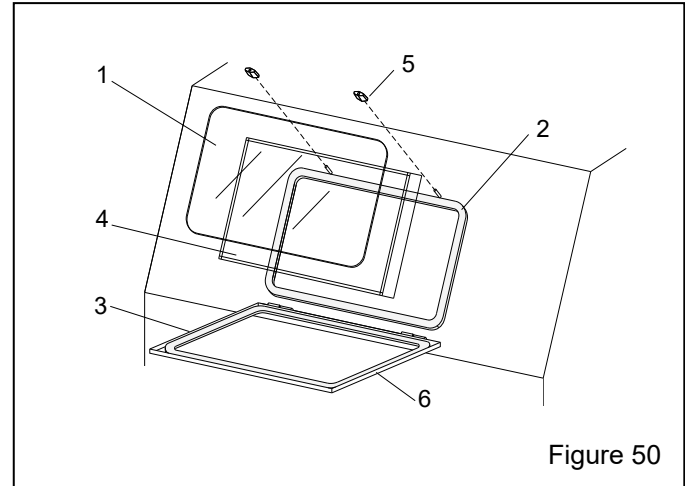

Figure 50
9.5 View Window Assembly – Figure 50